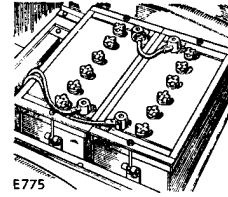

Fig. 90. Vehicle batteries
- (1) **Vehicle batteries.** A negative earth return system is used, employing two 12 volt batteries connected in series, giving 24 volts output. They are located in the centre of the seat box between the driver and passenger seats, and are protected by a metal cover secured by two wing nuts. See Fig. 90.